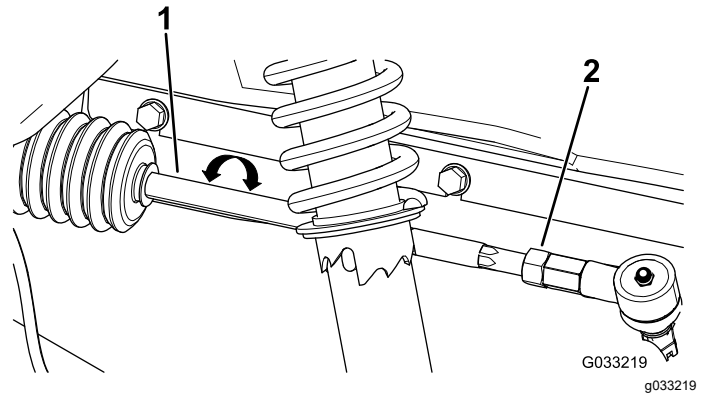

Figure 84
1. Loosen the jam nuts at the outer end of the tie rods (Figure 84).